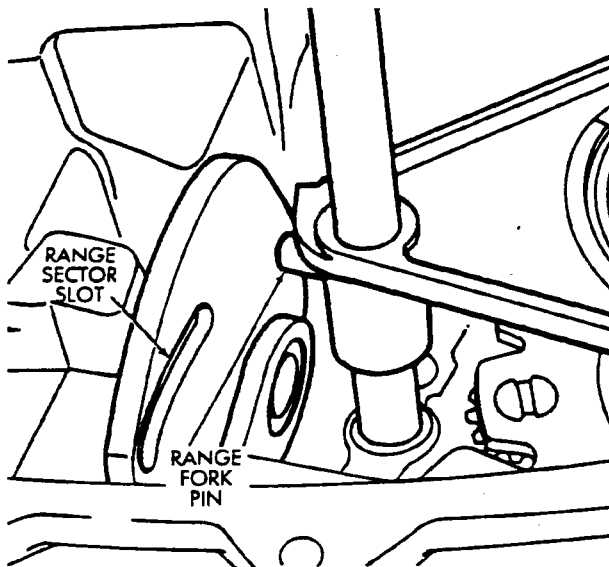

Fig. 4-45 Engage Range Fork And Sector
35. Engage range fork pin in range sector slot (Fig. 4-45)